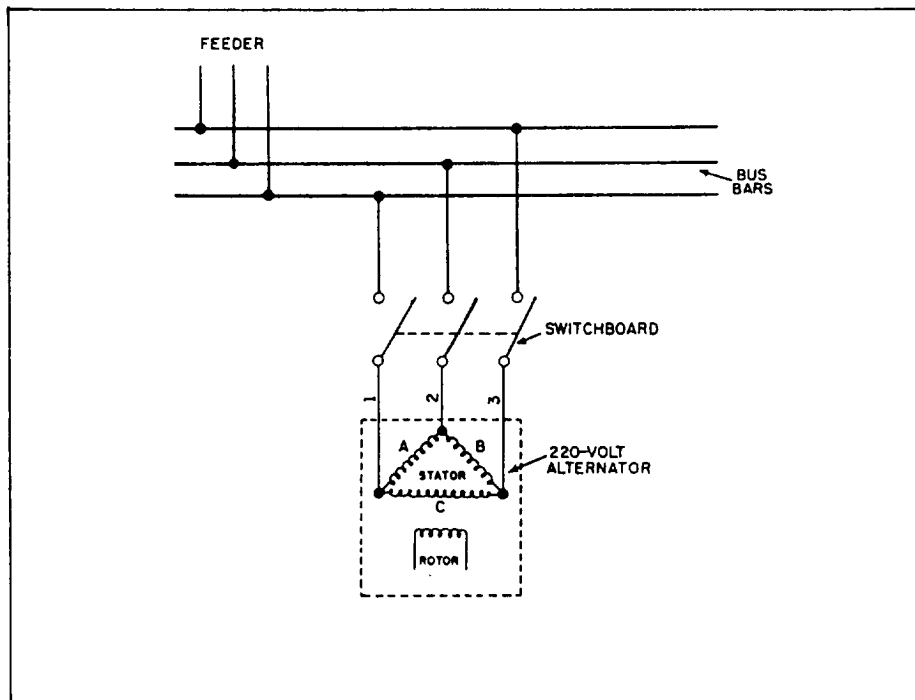
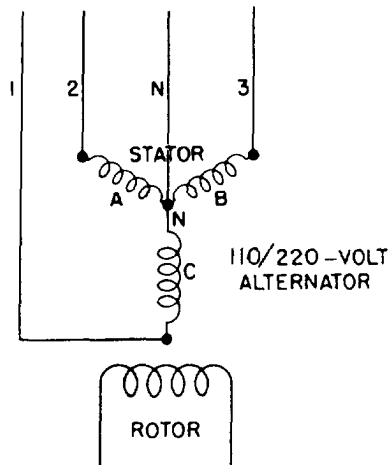

Figure 9-4. Schematic diagram of a delta-connected alternator.
Figure 9-5.-Y-connected alternator (three-phase, four-wire).
A system may be a THREE-WIRE or a FOUR-WIRE system, depending upon whether the alternators are connected DELTA (A) or WYE (Y). Figure 9-4 is a schematic diagram showing a delta connection. The coil marked
Figure 9-5 shows a Y-connected alternator (three-phase, four-wire). N represents a common or NEUTRAL point to which the stator coils are all connected. The current is taken off the stator by the three lines (wires), 1, 2, and 3, connected to the stator coil ends; and also by a fourth line, N, connected to the neutral point. Lines 1, 2, and 3 are hot wires; line N is NEUTRAL.
delta-connected system has only a single voltage rating (220 V in fig. 9-4). However, in a Y-connected system, the voltage developed in different combinations of wires is different. In figure 9-5, you can see that lines 1 and 2 take power from two stator coils (A and C). The same applies to lines 1 and 3 (power from coils C and B) and lines 2 and 3 (power from coils A and B). However, the neutral (N) and line 2 take power from coil A only; neutral (N) and line 1, from coil C only; and neutral (N) and line 3, from coil B only.